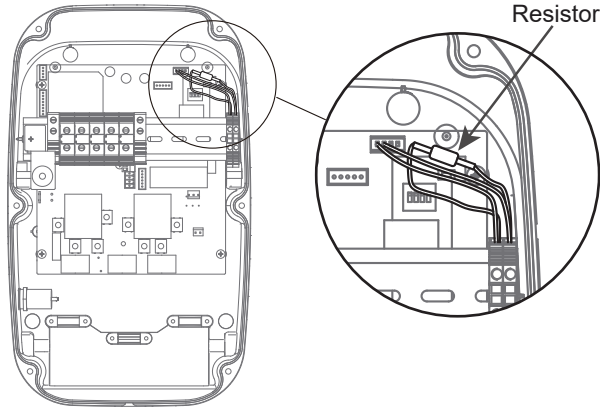

Fig.11
2. **Main charger and Tail subordinate charger:** Crimp both ends of the resistor (120Ω) and the tie line wire to the terminal block (with First/Last tags-Fig.7), refer to Fig.11.